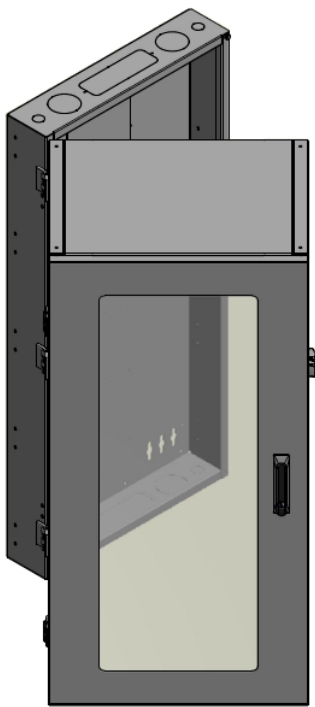

Figure 1
**Step 1:** Determine which way the cabinet will open. In these instructions, the cabinet is set up to hinge on the left with the door swing open to the left. See Figure 1.